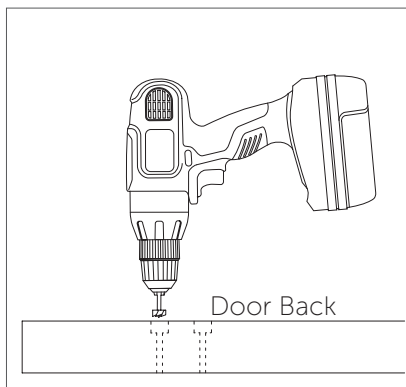

Figure 3
7. Turn the door over. Using a 1-1/8" Forstner bit*, drill a 1/2" deep hole into each pilot hole (Figure 3).